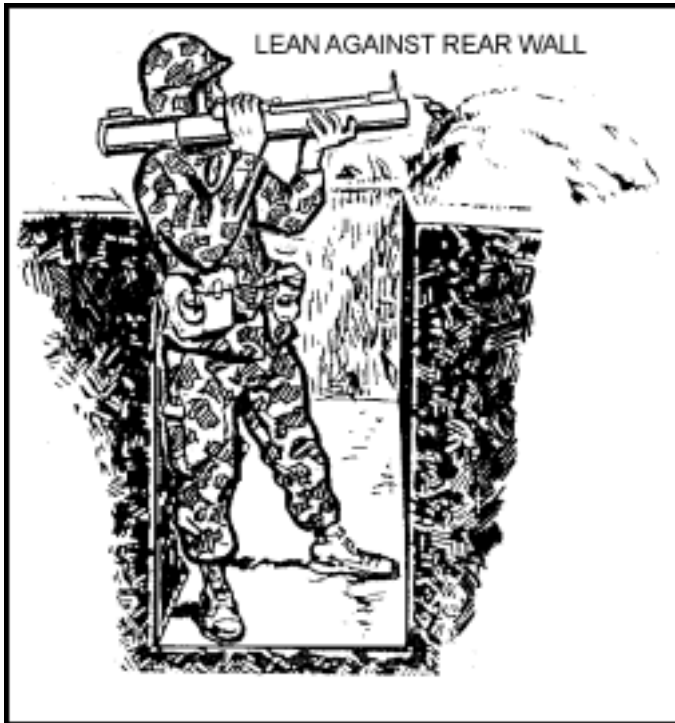
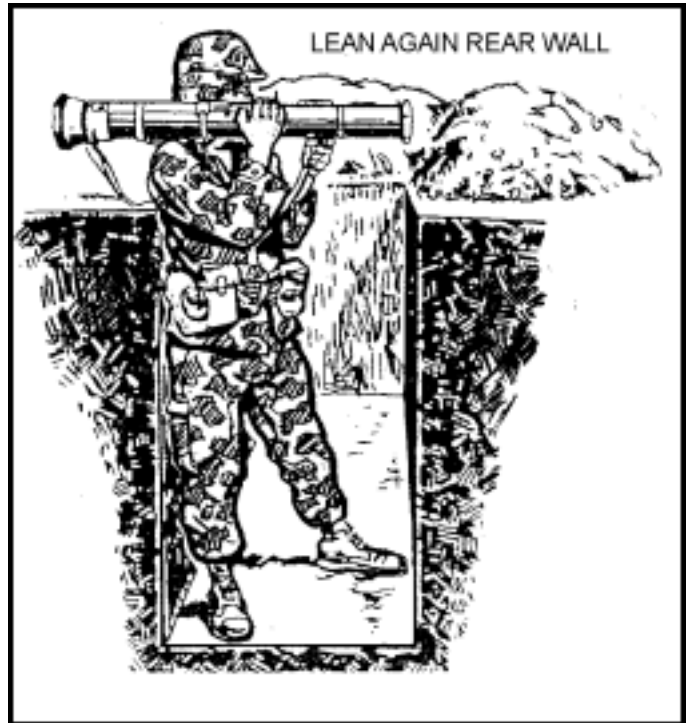

Figure 5-2. Modified standing position, M72-series LAW.
Figure 5-3. Modified standing position, M136 AT4.
b. **Modified Standing Position.** Use this position when you occupy an infantry fighting position. Assume the basic standing position, but instead of stepping forward, lean against the back wall of the fighting position. Ensure that the venturi or rear of the weapon extends beyond the rear of the fighting position. Figure 5-2 shows the modified standing position for the M72-series LAW; Figure 5-3 shows the modified standing position for the M136 AT4. Ensure that NONE of the following are in your backblast area: